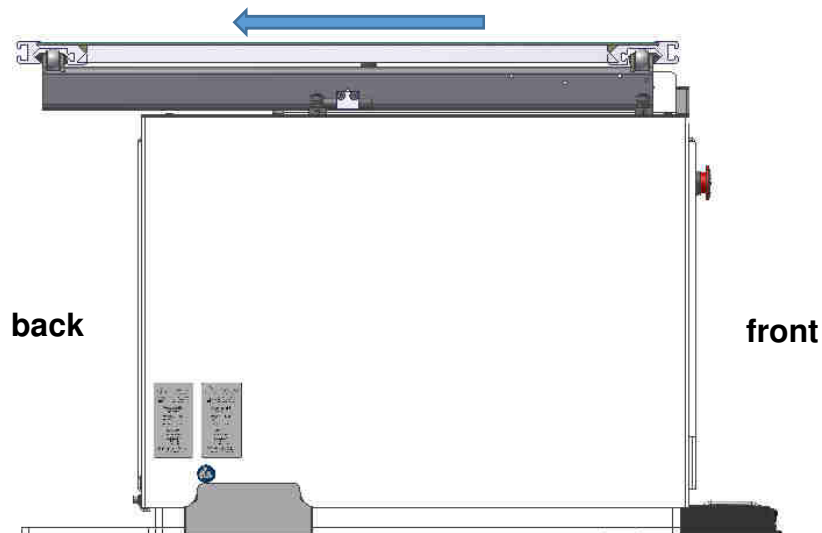

Figure 4-1
**If the X-ray system table must be operated while seated, it is essential to ensure that the table top is positioned at the rear (see Fig. 4-1).**